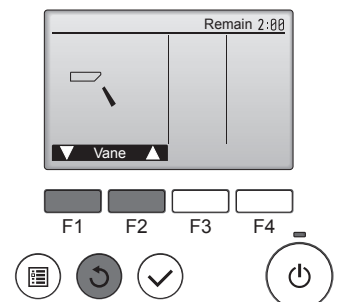

Fig. 8-4
- ② Press the [SELECT] button to display the Vane operation screen, and then press the [F1] and [F2] buttons to check the auto vane. (Fig. 8-4)